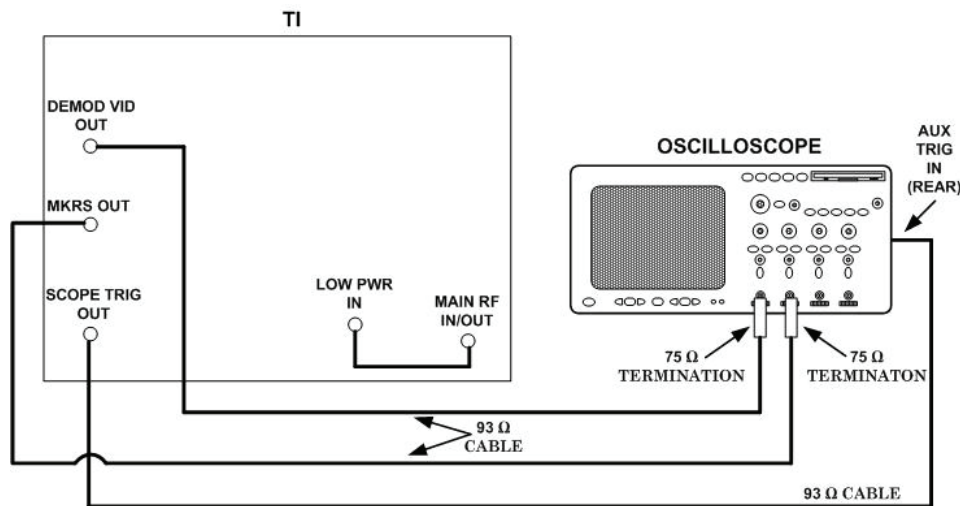

Figure 5. SIF reply marker - equipment setup.
- (1) Set controls as listed in paragraph 7 e.
- (2) Connect equipment as shown in figure 5.